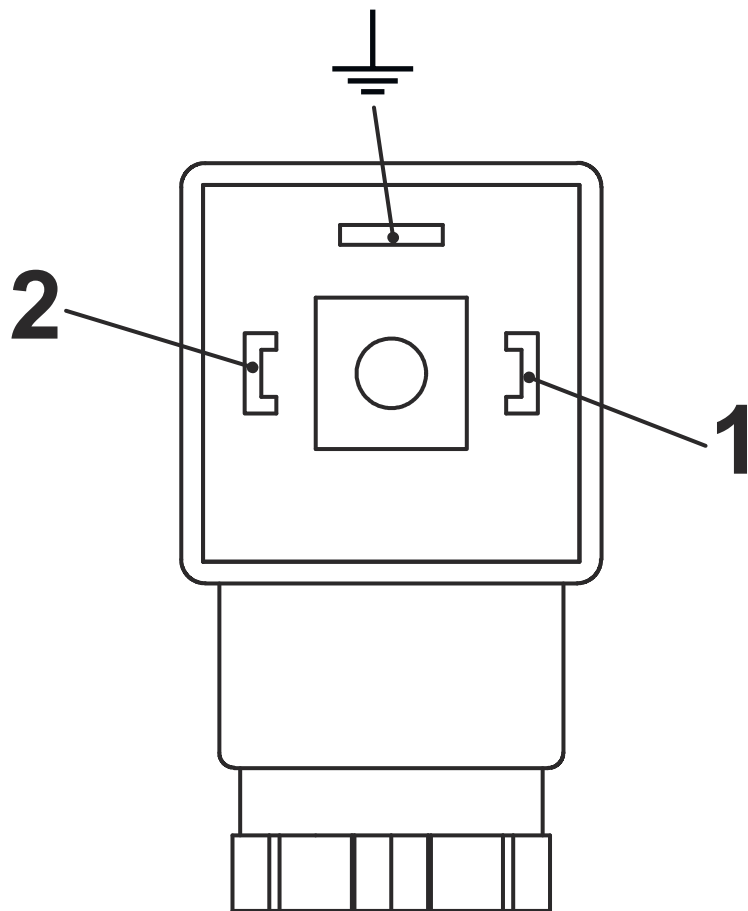
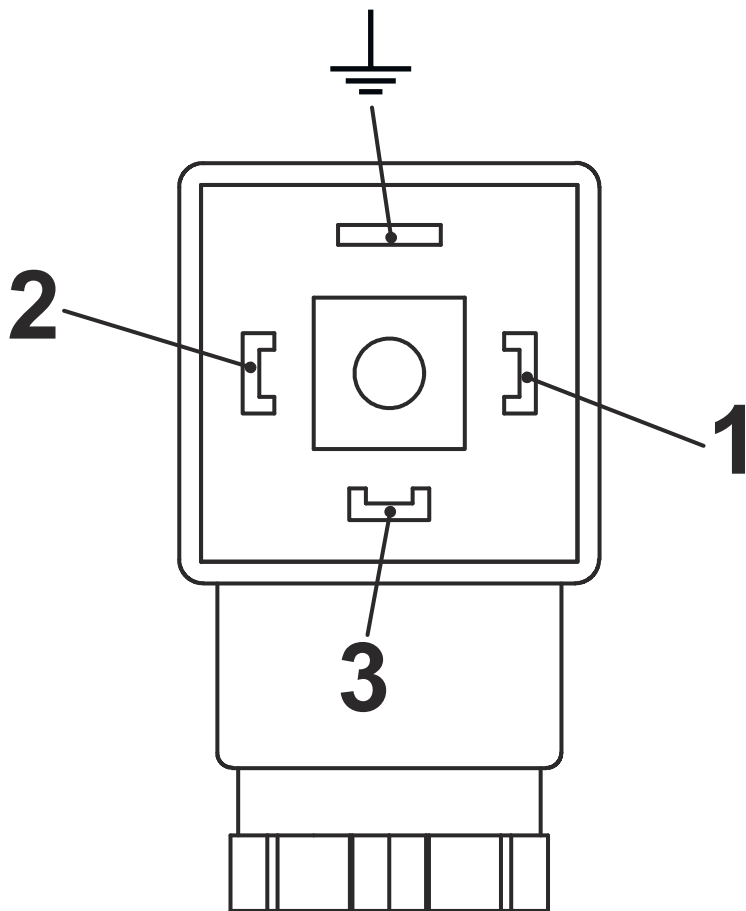

Fig. 29: Pin assignment, plug socket, Normally Open Contact (Form 30x70)
Fig. 30: Pin assignment, plug socket, Change-Over-Contact (Form 30x70)
6. ➤ Make the connections as shown in the connecting diagram (Fig. 29 und Fig. 30)